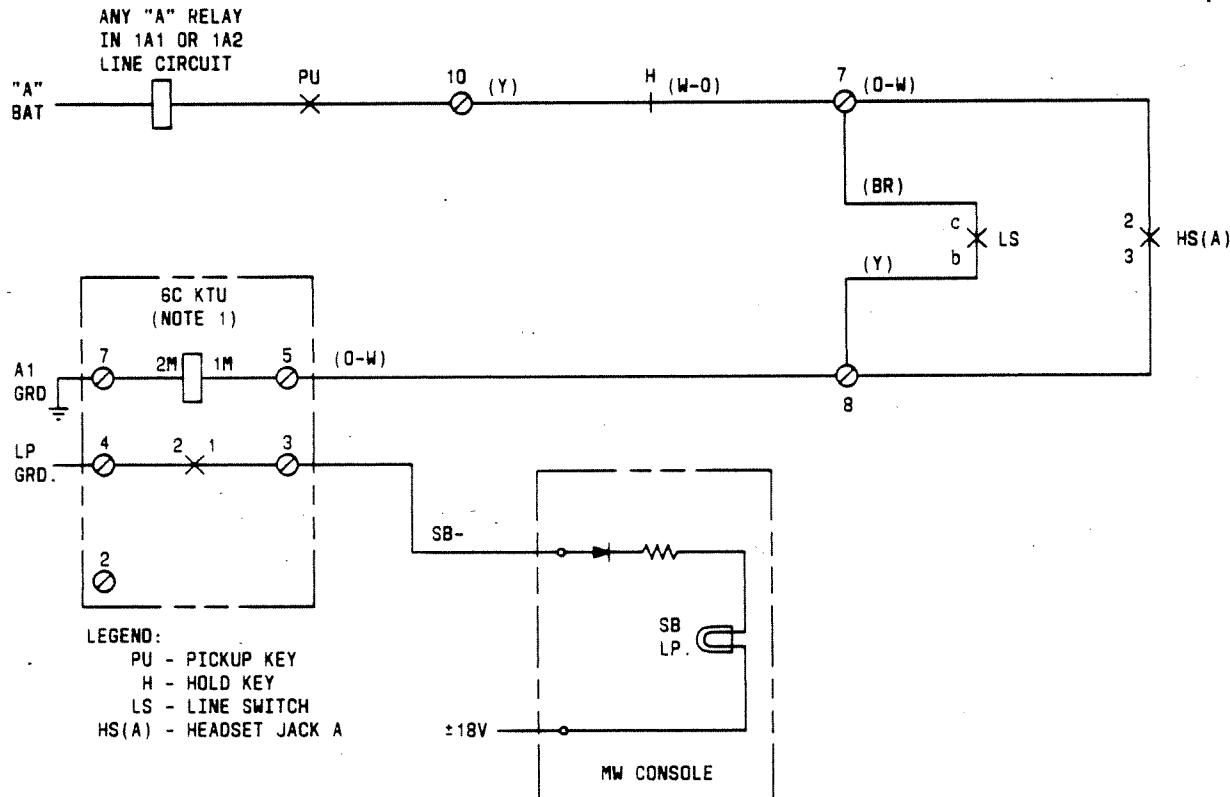

Fig. 1.1—Busy Lamp Control Circuit for Headset Equipped CALL DIRECTOR Telephone Sets
- 2.003** Add Fig. 1.1.
| 634/635D 2634/2635D | Fig. 1.1 | R-G | | LG | G-R | | 5 |